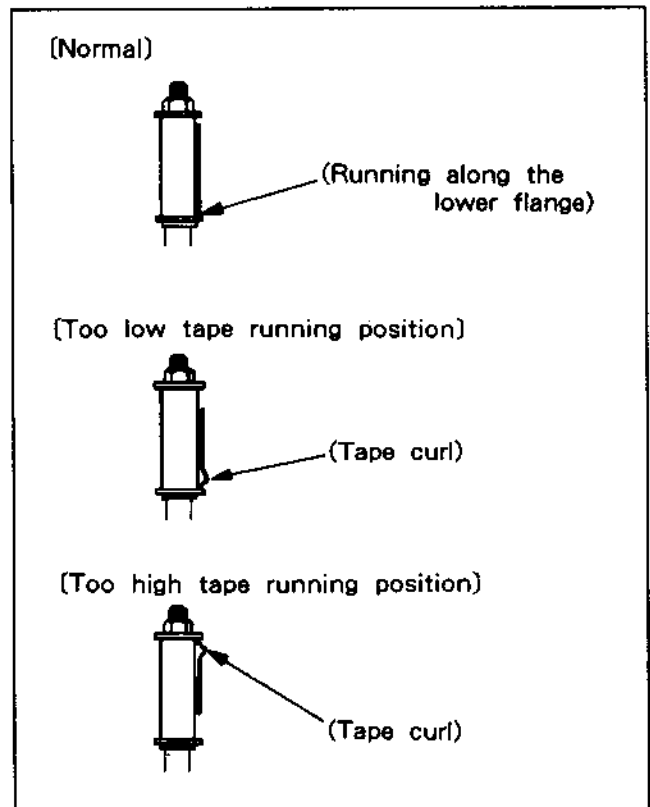

Fig. 5-4-6. Fixed Guide (T)
5-4-5. TAPE PATH CHECK OF EXIT SIDE FIXED GUIDE (T) (See Fig. 5-4-6.)